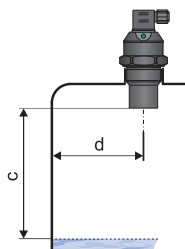

Fig. 3: Distance of the device from the tank wall
- The minimum distance from the **tank wall** when installing into the lid or the ceiling of the tank are listed in Fig. 3. In the case of device installation close to smooth wall of the tank it is not necessary to observe the minimum distance, conversely it is suitable to shorten this distance.